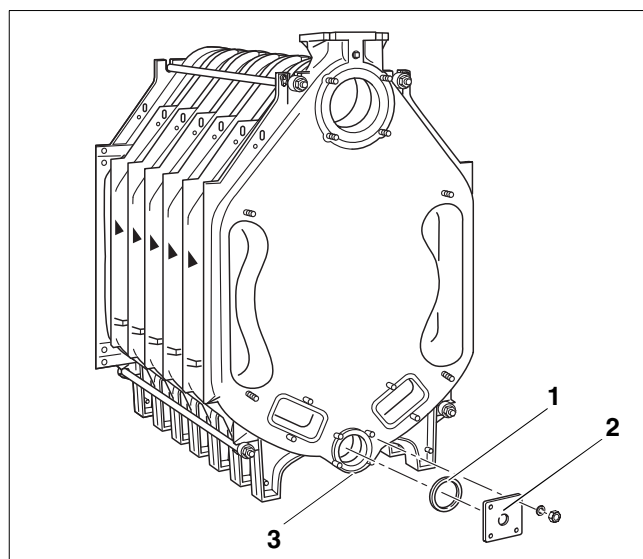

Fig. 23 Assembly – Fitting flange
- Seal off the bottom nipple ports (Fig. 23, **ref. 3**) at front and rear. To do this fit a suitable gasket (Fig. 23, **ref. 1**) to the front nipple port and screw on a blind flange measuring 110 mm along the edges. Fit the flange with the $\frac{3}{4}$ " tapped hole for the filling and drain cock (Fig. 23, **ref. 2**) to the rear of the boiler in the same way.